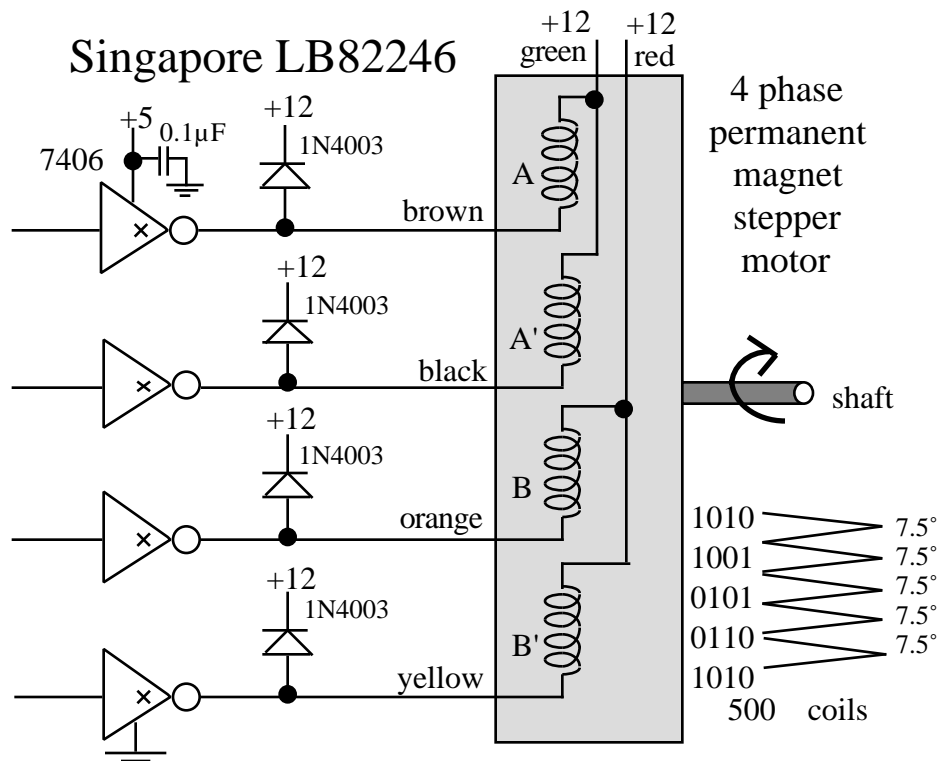

Figure 4.3. Singapore LB82246 Stepper Motor Specifications
1. Stepper motors other than the *Singapore LB82246* will have different coil resistances and different coil voltages. Be sure the interface driver (e.g., the 7406 in Figure 4.3) has an I_{OL} large enough to deliver the needed coil current. Please do not use the Adapt812 +5V regulated supply to run external components that require more than 100 mA of current. Although the *Singapore LB82246* will operate on the Adapt812's +5V, the torque is much better running with an external +12V supply. For larger motors always use a separate power supply. Remember to actually measure the coil current rather than dividing voltage by resistance.